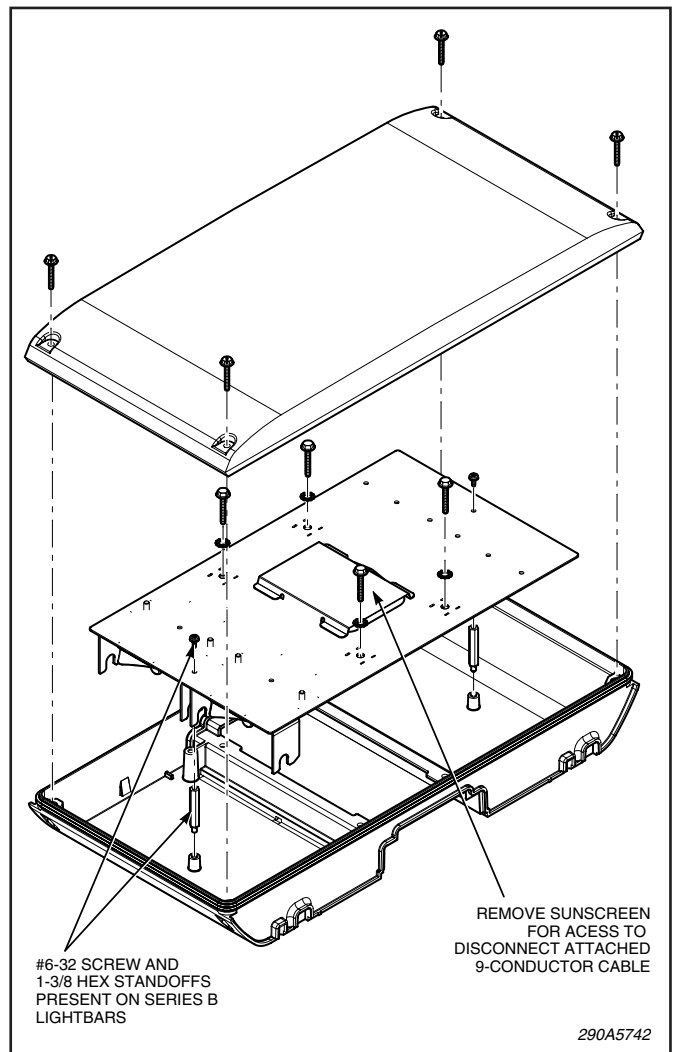

Figure 3. 2005402 Panel Replacement.
4. See figure 3. For replacing the 2005402 (finished model number S25402) panels within the center domed section (44" and 53" lightbars), proceed as follows:
On series A Arjent S2 lightbars, the two #6-32 phillips head screws are not present along with the 1-3/8" hexagonal standoffs. When replacing a series A panel with a series B panel, the hexagonal standoffs and the #6-32 screws must be installed as shown in figure 3 (two per 2005402 panel).